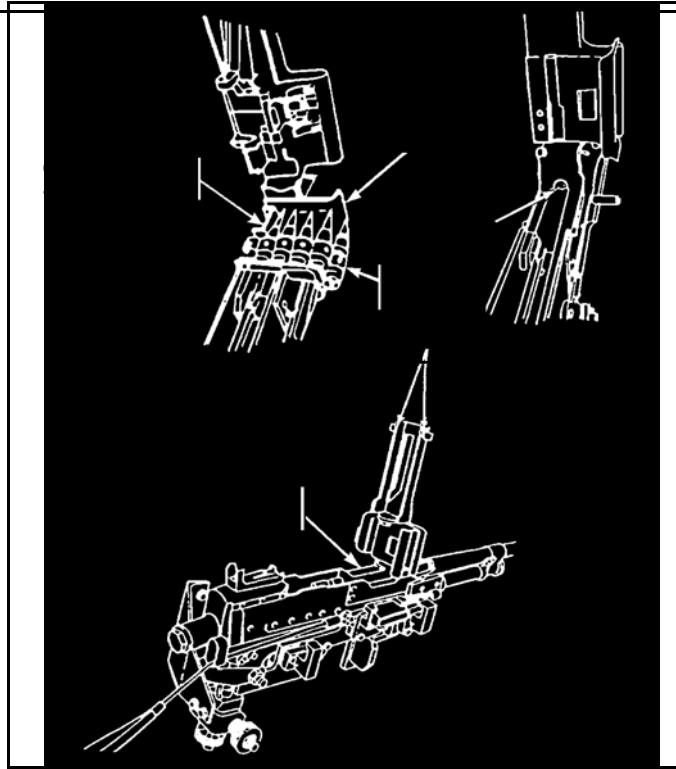

Figure 3. Feed chute latches.
- f. (BC) Open the feed tray.
- g. (BC) Check the receiver and the chamber for jammed rounds or links. Remove the residue.
- h. (BC) Make sure the rounds are aligned evenly on the ammunition belt.
- i. (BC) Check that both feed chute latches are secure (Figure 3, page 3-182).
- j. (BC) Reload the machine gun.
- k. (BC) Press the manual safety through to “F” (fire).
- l. (BC) Close the machine gun access doors.